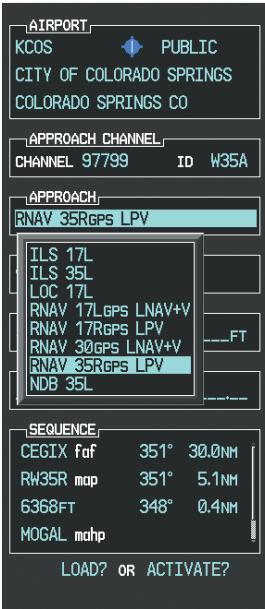

Figure 7-31 List of Available Approaches
- c) Press the **ENT** Key. A list of available approaches for the destination airport is displayed as in Figure 7-31.
- d) Turn either **FMS** Knob to select the LPV approach for 35R as shown in Figure 7-31.